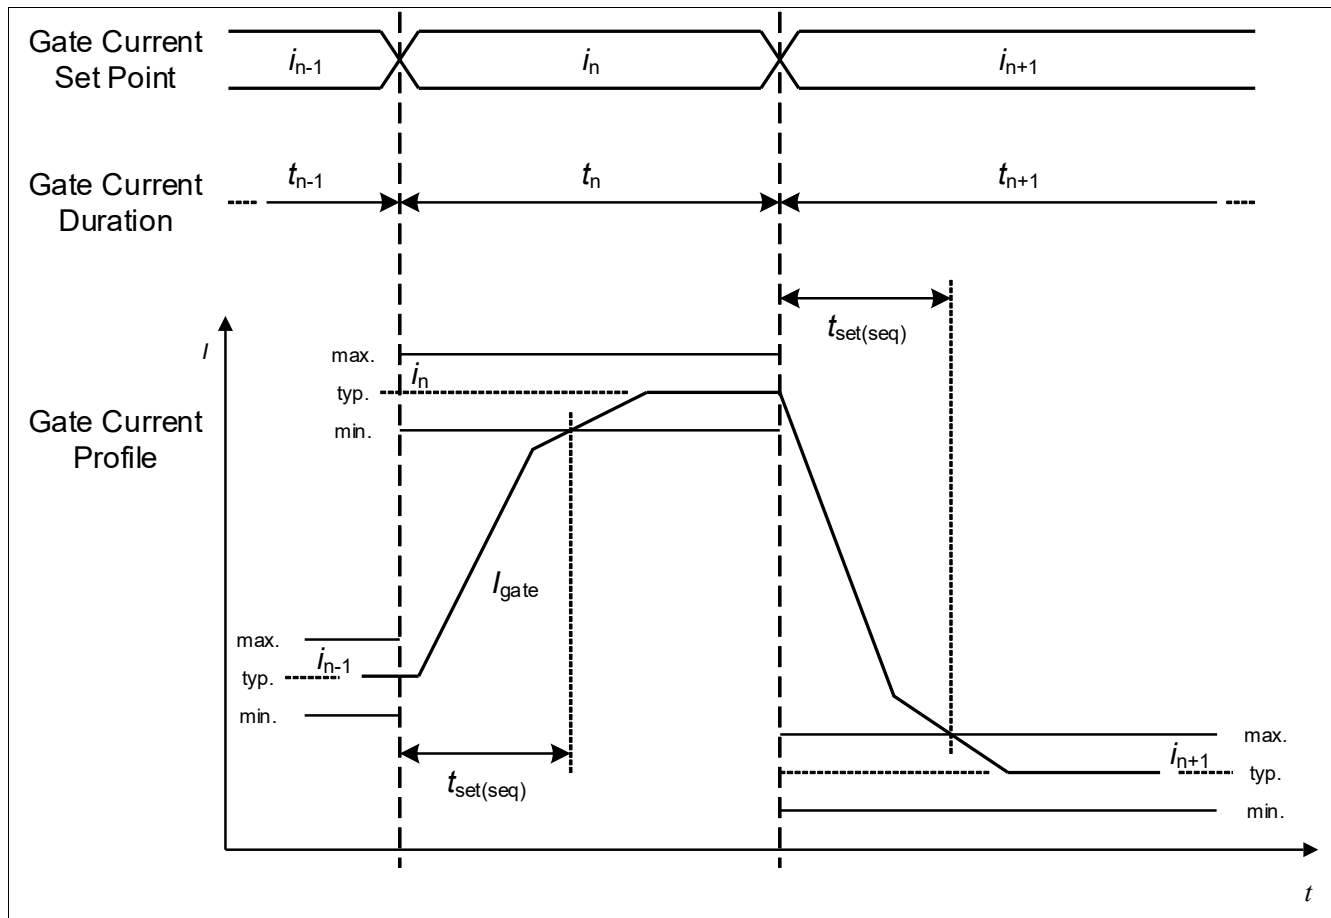

Figure 37 Gate current settling time
- At the transition between two gate current set points the actual gate driver output current settles within $t_{\text{set(seq)}}$ to the new gate current set point (see Figure 37).